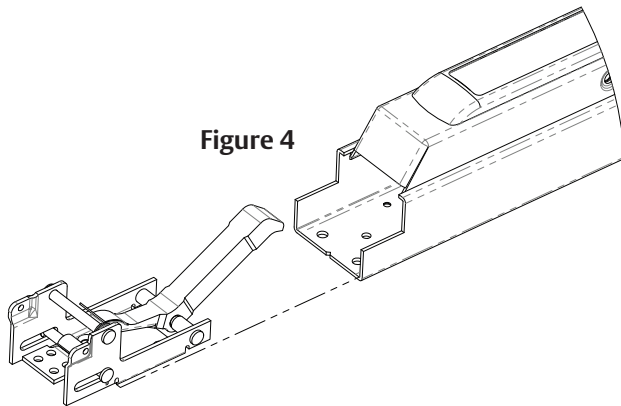

Figure 4
- A. Depress life arm and slide chassis into the rail as shown in Figure 4.